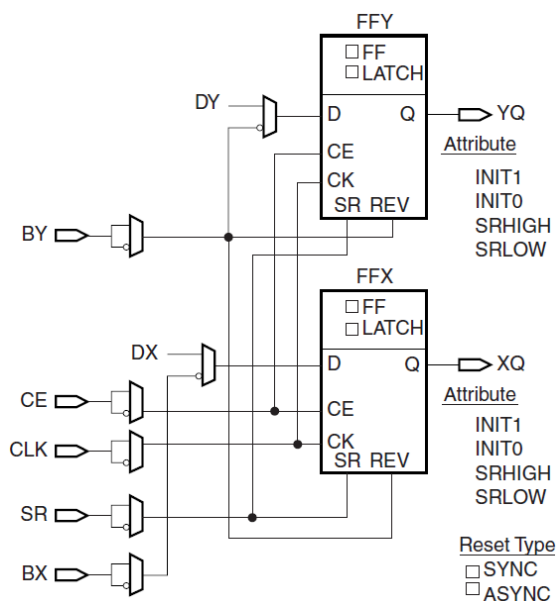

Figure 12 Register/Latch Configuration in a Slice
The storage elements in a BQR2V1000 slice can be configured as either edge-triggered D-type flip-flops or level-sensitive latches. The D input can be directly driven by the X or Y output via the DX or DY input, or by the slice inputs bypassing the function generators via the BX or BY input. The clock enable signal (CE) is active High by default. If left unconnected, the clock enable for that storage element defaults to the active state. In addition to clock (CK) and clock enable (CE) signals, each slice has set and reset signals (SR and BY slice inputs). SR forces the storage element into the state specified by the attribute SRHIGH or SRLOW. SRHIGH forces a logic “1” when SR is asserted. SRLOW forces a logic “0”. When SR is used, a second input (BY) forces the storage element into the opposite state. The reset condition is predominant over the set condition (Figure 12). The initial state after configuration or global initial state is defined by a separate INIT0 and INIT1 attribute. By default, setting the SRLOW attribute sets INIT0, and setting the SRHIGH attribute sets INIT1.